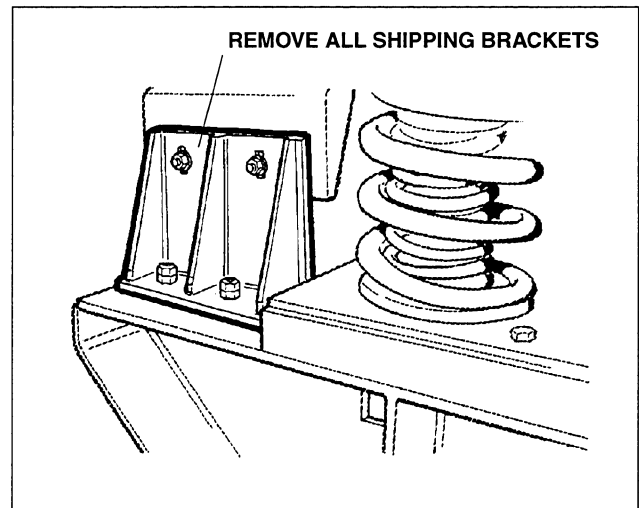

Figure 3-4. Shipping Brackets (Painted Red)
- Remove all shipping brackets (painted RED). See Figure 3-4.